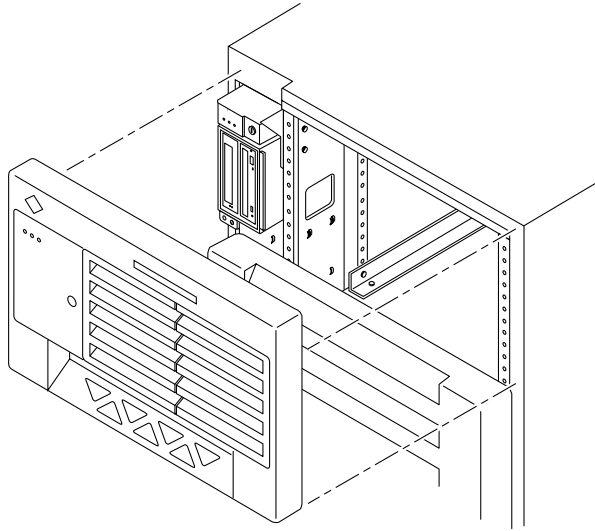

FIGURE E-6 Removing the Front Bezel
3. Grasp the front bezel on both sides at the top and pull it out far enough to disengage the ball studs (FIGURE E-6).
Tap or press both sides of the bezel into place (FIGURE E-6).